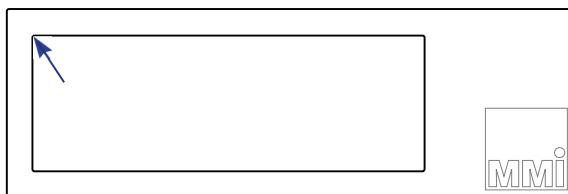

Figure 5.36: Suggested positions on a mmi Membrane slide to precisely adjust the stage insert position.
5. scan an overview image in slide 1, see 5.4.4 and adjust the image to the slide position by shifting the whole insert. To get a precise positioning we recomment to adjust the image of the left upper corner of an membrane slide (Fig. 5.36) or the image of wells of an ampligrid to the displayed slide.